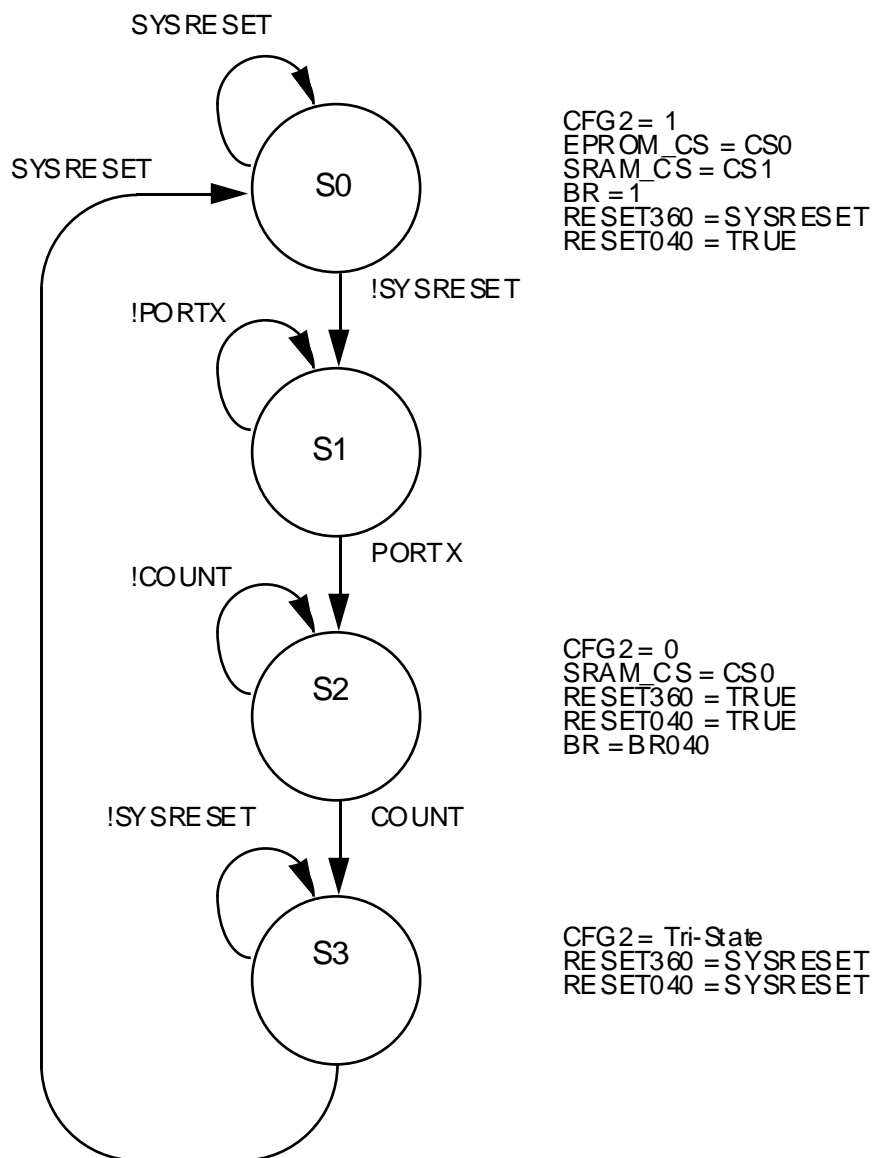

Figure 2. Reset State Machine for 360/040 8-Bit Boot Eprom
The PAL used to control the reset operation and is used to implement the state machine in Figure 2. When using a 26V12 two bits are required to implement the state machine, 5-bits for the reset counter and the remaining 5 outputs used for; EPROM_CS, SRAM_CS, RESET040, RESET360 and CFG2. Note that care should be taken to facilitate alternative reset sources if required, for example if the system is required to reset after a Double Bus Fault.
At system reset, the PAL state machine in Figure 2 is held in state S0. The System Reset line SYSRESET is used to reset both the 040 and the QUICC. The QUICC is configured in CPU enabled mode with CS0 routed to the EPROM and CS1 routed to the SRAM. When Bus Request (BR) is asserted by the 040 it is not fed directly to the 040, instead it is fed through the PAL to the 360. This means the Bus Grant (BG) signal it is not asserted to the 040, therefore it shall remain in tri-state.